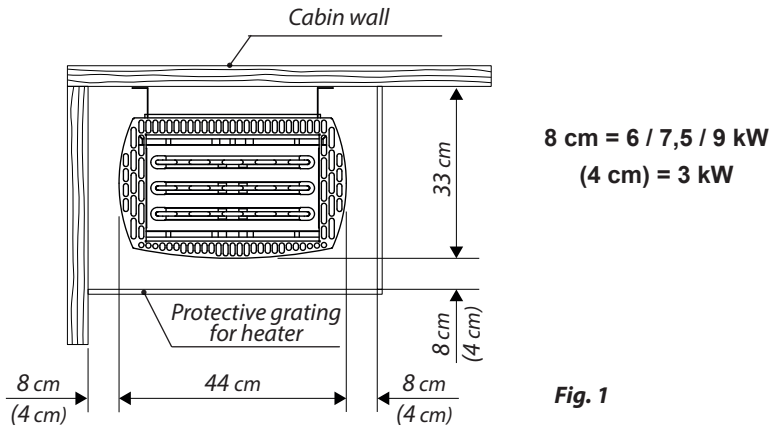

Fig. 1
- The side (horizontal) gaps between the heater and the cabin wall or the guard rail, bench and other flammable materials are stated in Fig. 1.